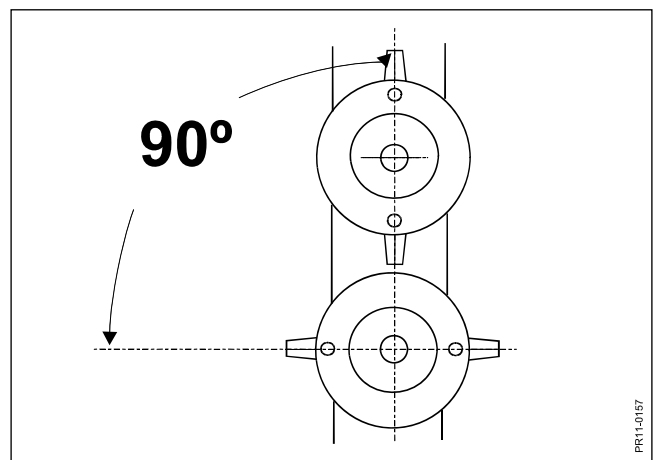

Fig. 5-11
- Fig. 5-11 If discs have been dismounted they must be mounted again staggered 90° in relation to each other.